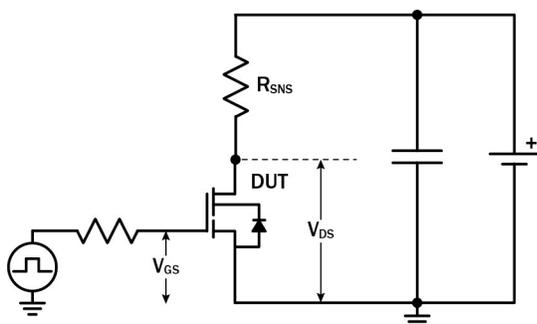

Figure 18. Dynamic $R_{DS(ON)eff}$ Test Circuit
- Dynamic R_{DS(on)} value; see Figures 18 and 19 for conditions